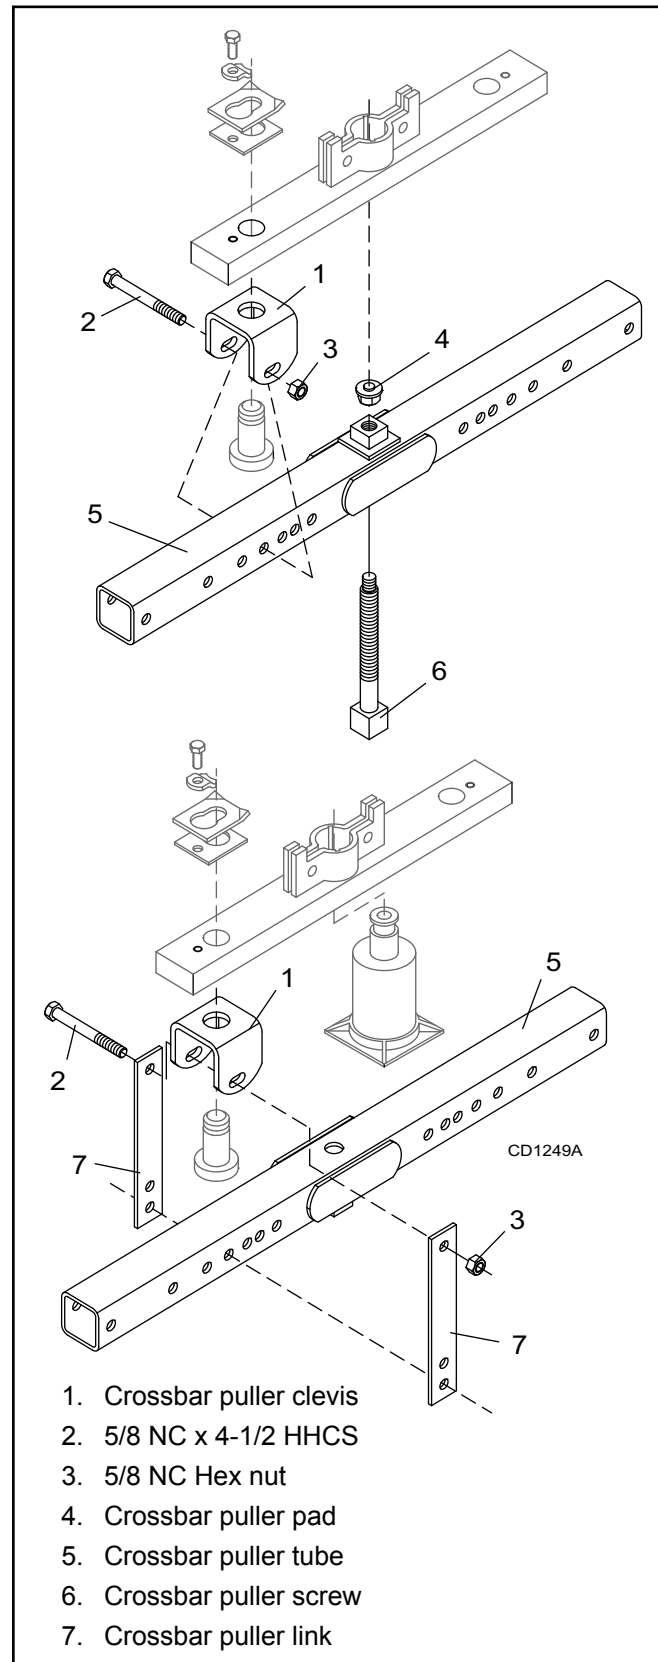

Figure 15. Crossbar Removal
NOTE: You will need to use either the puller screw (Item 6, Figure 15) or a small hydraulic jack to remove the crossbar.
3. Refer to Figure 15. Remove cotter pin from bottom of crossbar and remove nut and washer.
4. Attach a clevis (1) to each end of crossbar, using blade pins, spacers, keyhole plates, and blade pin clips.
5. Position tube assembly (5) with threaded nut (4) toward crossbar for puller screw removal or down for hydraulic jack removal.
6. For removal with puller screw, attach tube (5) to each clevis with bolts (2) and nuts (3). Place pad (4) in nut and thread puller screw (6) into nut from bottom. Tighten until pad is solid against gearbox shaft. For best results, strike head of puller screw with a hammer while tightening with a wrench.
7. For removal with a jack, attach tube to each clevis with puller links (7), bolts (2), and nuts (3). Place jack on tube with end of jack pressing against gearbox shaft. Slowly apply force with jack.